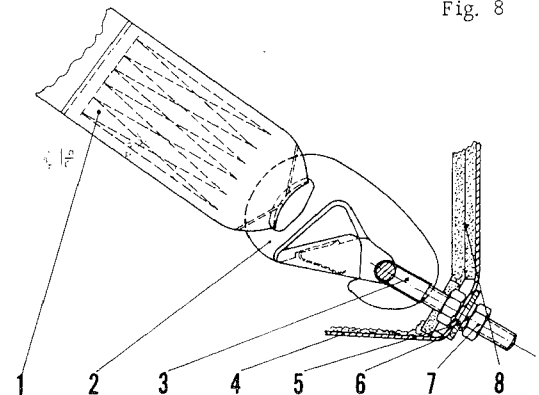

Fig. 9
4. Push the shackle through the Boucle-covering and screw on counter nuts. Treat reinforcement flap with body sealing compound and push shackle through the holes of the vertical sheeting. Mount reinforcement flap and tighten with spring ring and nut (see Fig. 9).